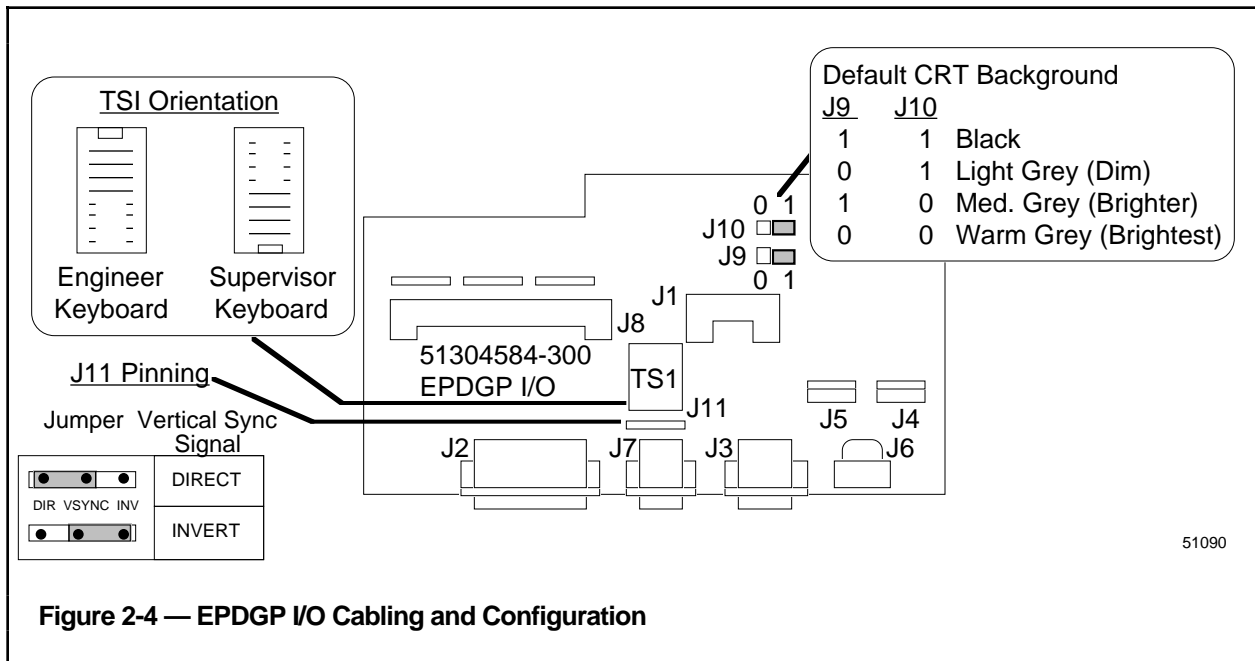

Figure 2-4 — EPDGP I/O Cabling and Configuration
When selecting a location for the UWS, consider the LCN coax or fiber-optic cable limits specified in Appendix A of the *LCN Site Planning* or the *TDC 3000^X System Site Planning*. The monitor, keyboard, printer, and mouse are equipped with 1.8 m (6 ft.) signal cables that terminate inside the electronics module, as shown on Figure 2-4 and 2-5.
1. Remove the EPDGP I/O board from rear slot 4. Determine if you have a Supervisor's Keyboard or an Engineer's Keyboard (see Figures 1-2 and 1-3). Set the pinning on TS1 to either the Supervisor's **KEY BD** or **ENG KEY BD** position as shown in Figure 2-4 and on the EPDGP I/O board itself. If the UWS has the Enhanced Keyboard Assembly (both the Enhanced Operator's Keyboard and the Engineer's Keyboard), set the pinning on TS1 in the Supervisor's **KEY BD** position.
2. Connect one end of the mouse adapter cable (51304033-045) to the J1 **CURSOR** connector on the EPDGP I/O board (see Figure 2-4). Fasten the free connector of the mouse adapter cable to the top of the I/O cardfile with two of the cable ties provided (see Figure 2-3 and 2-5). Carefully reinstall the EPDGP I/O board.
5. If an optional printer is being connected to the UWS, route the cable through the rear panel cutout and connect it to the J2 **PRINTER** connector on the EPDGP I/O board (see Figure 2-4). Secure the cable to the board with the two screws provided. Place the cable under the cable clamp on the rear panel as shown in Figure 2-3.